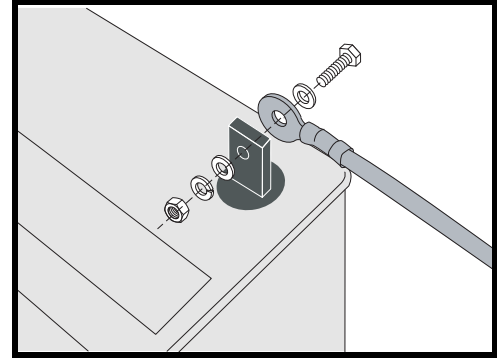

Figure 13. Battery Removal/Installation
5. Disconnect the battery cables from the battery terminals on each battery by removing the nut and bolt from each battery terminal. **See figure 13.**